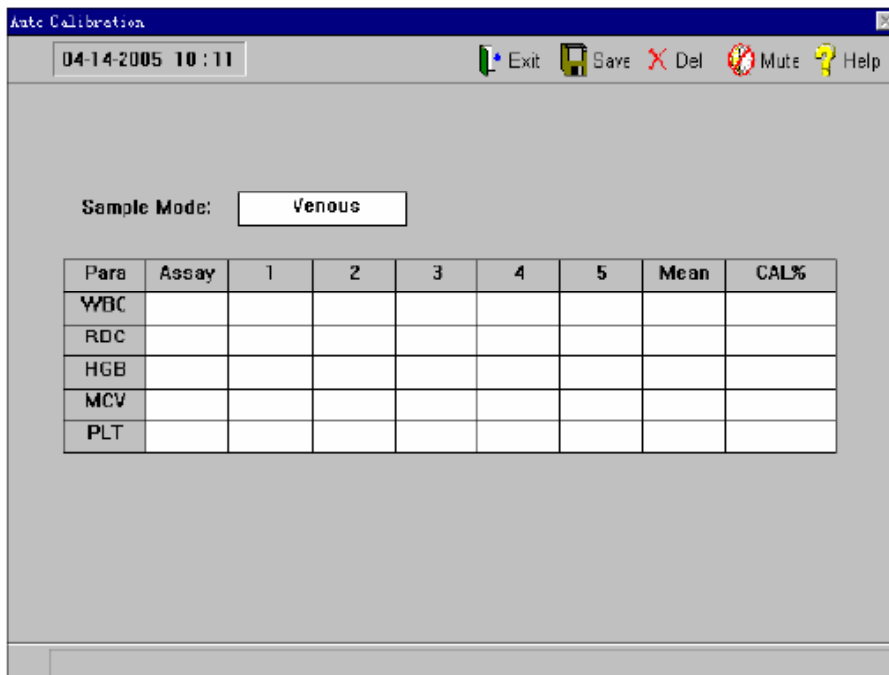

Figure 5-2
- a) In the blood cell analyzer window, press the right key of the mouse, select "**Auto Calibration**" in the menu. The instrument enters the auto calibration window, as shown in figure 5-2.